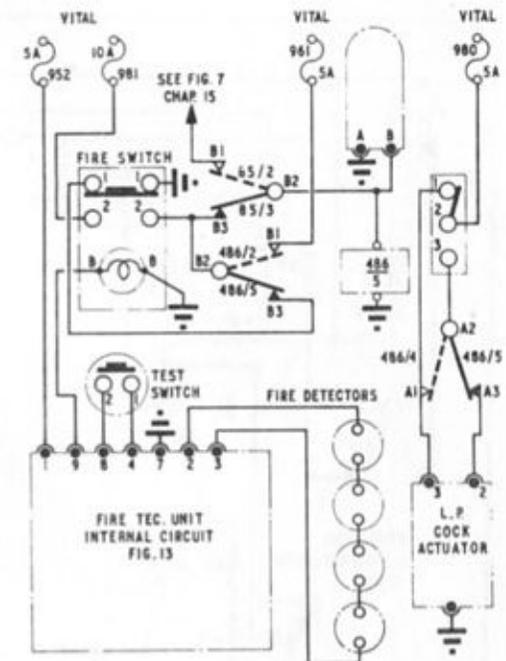

Fig.12 Fire extinguisher circuit
79. Reference to fig.12 and 13 will show that when the fire detector heads sense a rapid change of temperature, a voltage will be generated in the detector chain. This voltage output is fed via pins 2 and 3 to a milli-volt relay (M1), via resistor R1 and the normally closed back contacts Y of test relay L7. When this voltage reaches 7.5 mV, the moving coil of the milli-volt relay will rotate clockwise and cause the centre contact, which is fixed to the coil, to touch the top or right-hand fixed contact of the milli-volt relay. This immediately causes the current to flow as follows:-